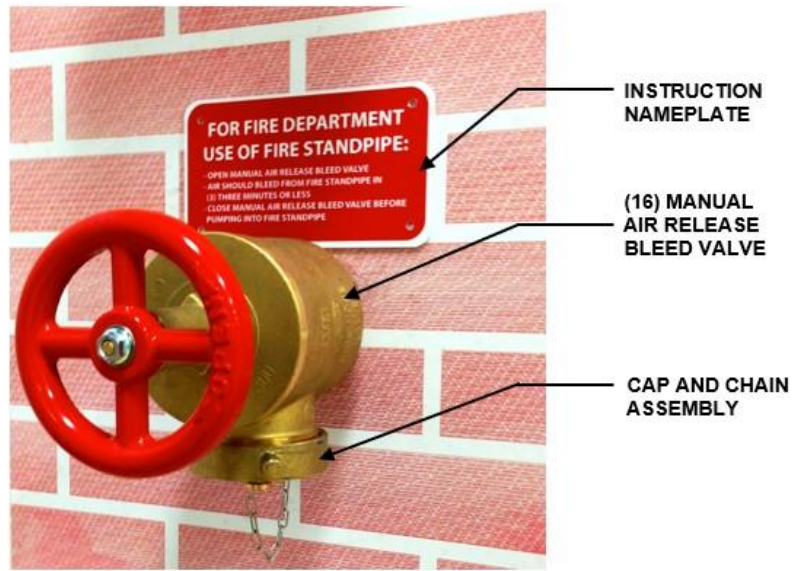

Figure 3 – Manual Air Release Bleed Valve
- (16) Manual air release bleed valve for Fire Department use. This device is to be installed near the siamese connection feeding the standpipe. A cap and chain assembly is provided to protect the outlet. An instructional nameplate is also provided. This nameplate is to be securely fastened near the valve. (Figure 3)
3.3.3. Manual Air Release Bleed Valve. See Figure 3. Locate the manual air release bleed valve on the exterior of the building in proximity to the fire department Siamese connection feeding the standpipe protected by the **STANDPIPE-**